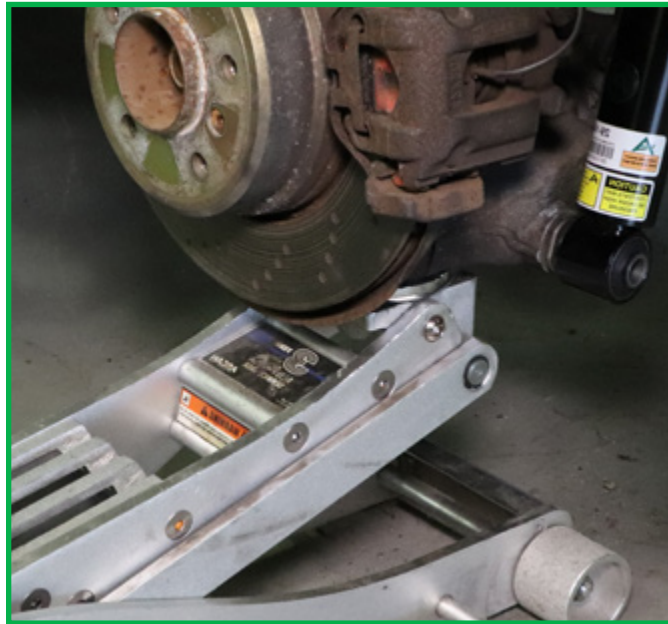

FIGURE 46
11. Use a hydraulic jack to support the rear axle for bottom mount bolt insertion. (Figure 46)